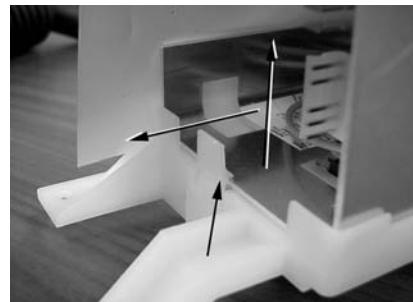

Figure 4-5
1. Pull the vertical tab forward and lift the front of the motor control board and slide the control forward to lift and remove the control from the bracket. (**Figure 4-5**)